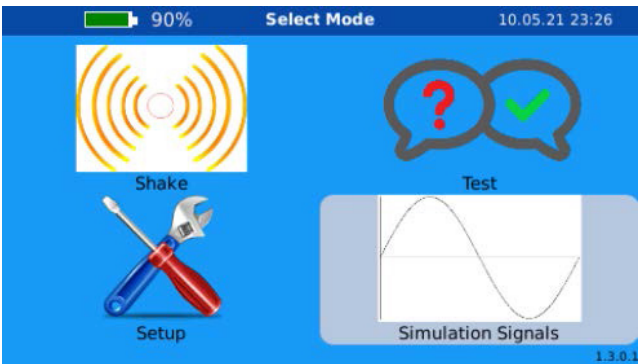

Figure 78. Select "Simulation Signals"
- 1. Choose **Simulation Signals** from the main menu (Figure 78).